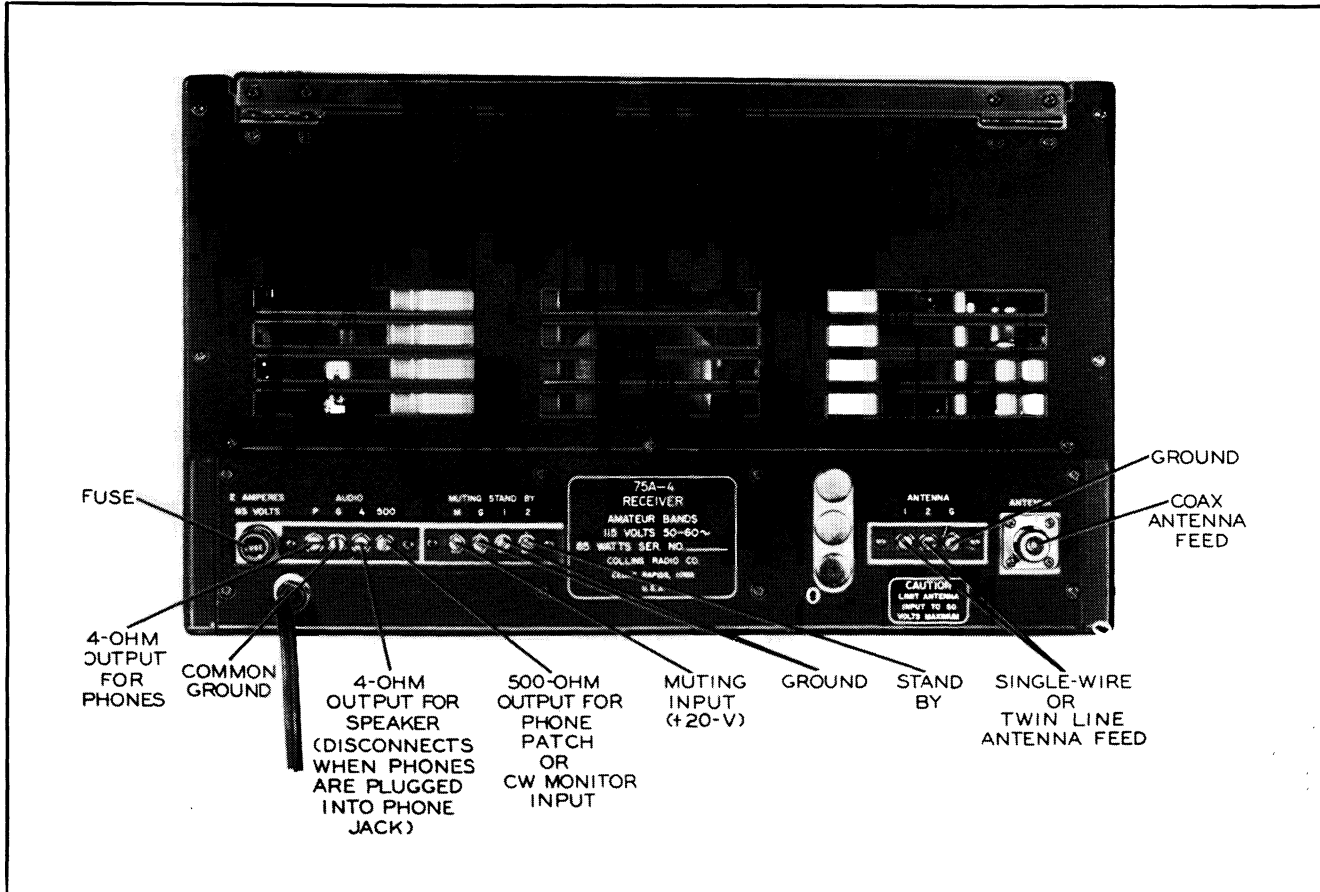

Figure 2-1. 75A-4 Receiver, External Connections
2. EXTERNAL CONNECTIONS (See figure 2-1).